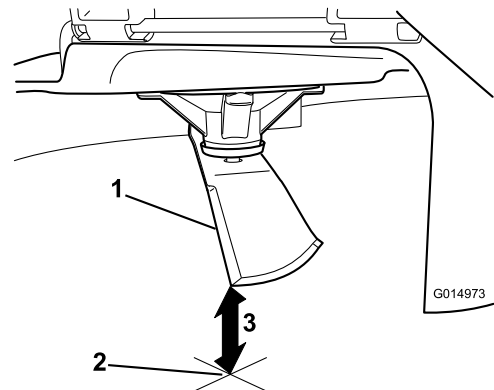

**Figure 49**
3. Measured distance between blade and the surface (A)
4. Rotate the same blade 180 degrees so that the opposing cutting edge is now in the same position (Figure 49).